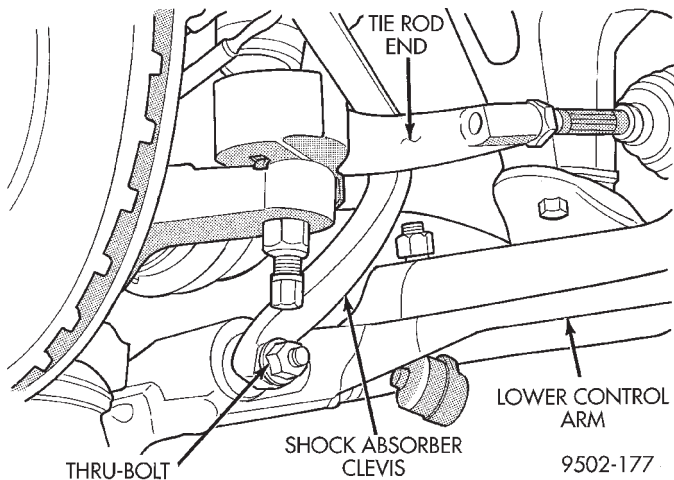

Fig. 15 Clevis To Lower Control Arm Attaching
CAUTION: When removing the shock absorber clevis to lower control arm thru-bolt (Fig. 15) do not turn the thru-bolt in the clevis. The serrations on the bolt and the clevis will be damaged.
(7) Remove the nut and thru-bolt (Fig. 15) attaching the shock absorber clevis to the lower control arm.
(13) Install the clevis to lower control arm isolator bushing thru- bolt (Fig. 15). Do not tighten or torque the thru-bolt at this time.
CAUTION: When tightening the shock absorber clevis to lower control arm thru-bolt (Fig. 15) do not turn the thru-bolt in the clevis. The serrations on the bolt and the clevis will be damaged.